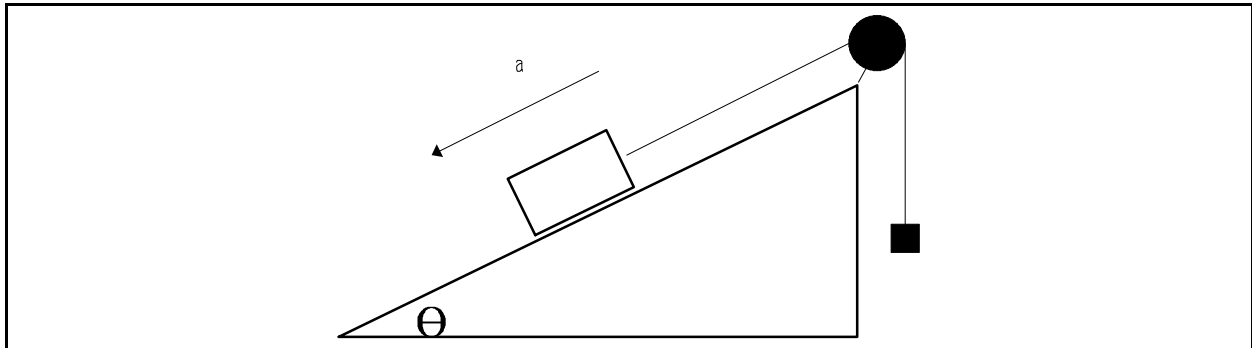

Figure 4
- Figure 4 shows another experimental setup one could use to measure the value of μ_k . It is not necessary for you to actually set up this experiment. What you are to do in the time that remains is to draw a free body diagram of this system and derive an equation for μ_k as was done for you at the beginning of this procedure. Would you expect to obtain values for μ_k consistent with those you obtained in the procedure you just carried out? Why or why not?